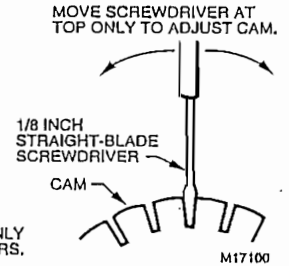

Fig. 9. Stroke adjustment setup for non-spring return models.
- Insert 1/8 in. screwdriver blade into an inner cam slot and move screwdriver top as far as possible counterclockwise (viewed from power end). See Fig. 9. Repeat in successive cam slots until inner cam is against the counterclockwise stop.
- Insert 1/8 in. screwdriver blade into an outer cam slot and move screwdriver top as far as possible clockwise (viewed from power end). See Fig. 9. Repeat in successive cam slots until outer cam is against the clockwise stop.
- Insert 1/8 in. screwdriver blade into an outer cam slot and move screwdriver top as far as possible counterclockwise (viewed from power end). See Fig. 9. Repeat in successive cam slots until outer cam is against the counterclockwise stop.
- Insert 1/8 in. screwdriver blade into an inner cam slot and move screwdriver top as far as possible clockwise (viewed from power end). See Fig. 9. Repeat in successive cam slots until inner cam is against the clockwise stop.